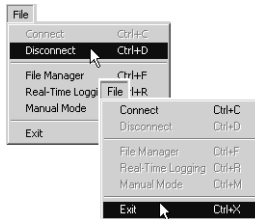

Figure 3-14. Click Disconnect then Exit
- Continue with other operations, or click **File** ► **Disconnect**, then **File** ► **Exit** to quit PC-CDU (Figure 3-14).